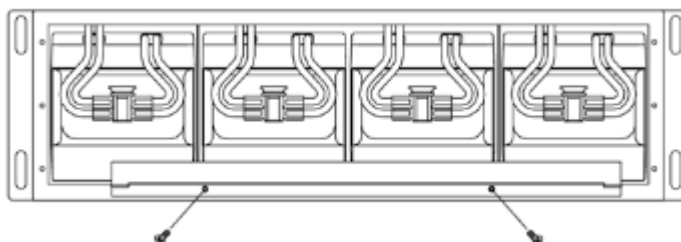

FIG. 3
12. Remove the two (2) retaining screws for the battery retaining bracket. (FIG. 3)